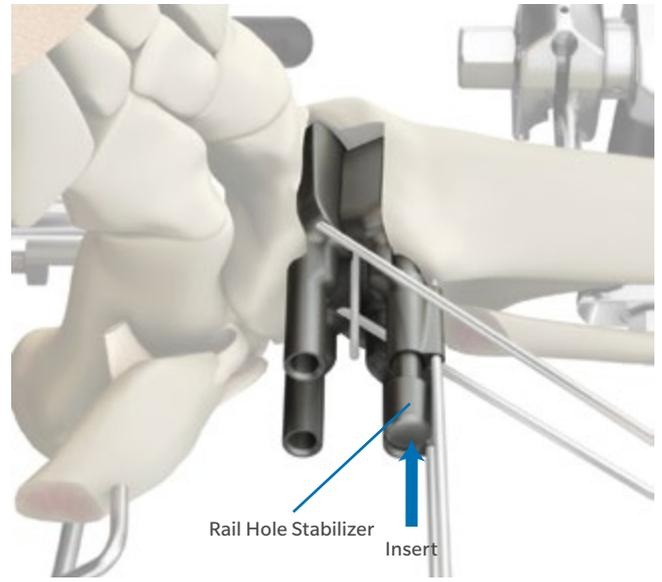

Fig. 76
- Remove the drill and insert the Rail Hole Stabilizer into the prepared hole (Fig. 76).